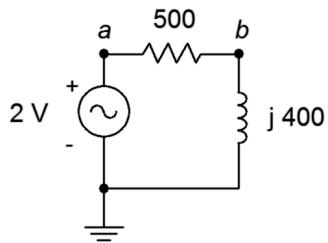

Figure 7.1
1. For the circuit shown in Figure 7.1, determine apparent power S , real power P , reactive power Q and power factor PF . Also, draw the power triangle.